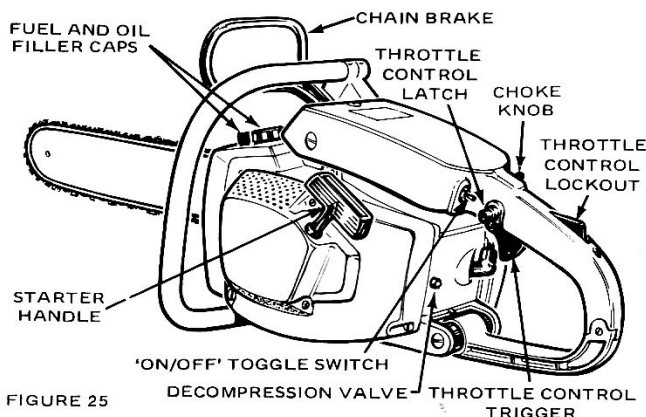

FIGURE 25
3. To start the engine, (refer to Figure 25), place the chain saw